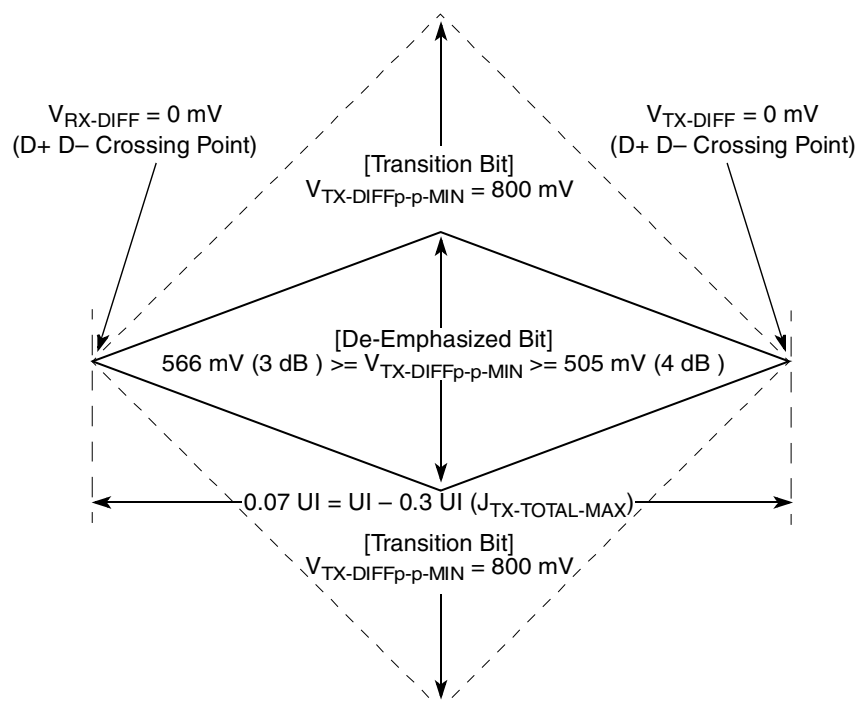
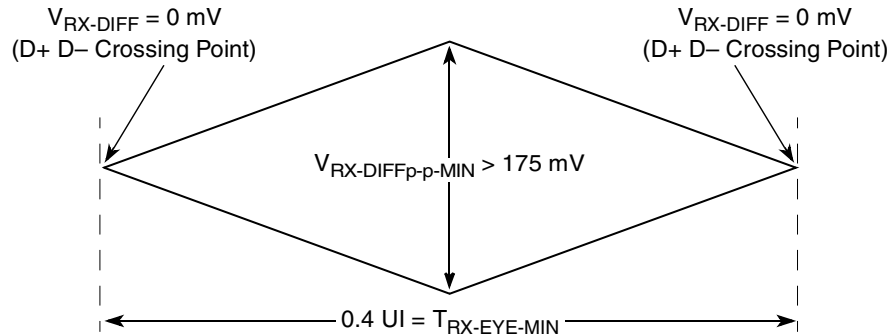
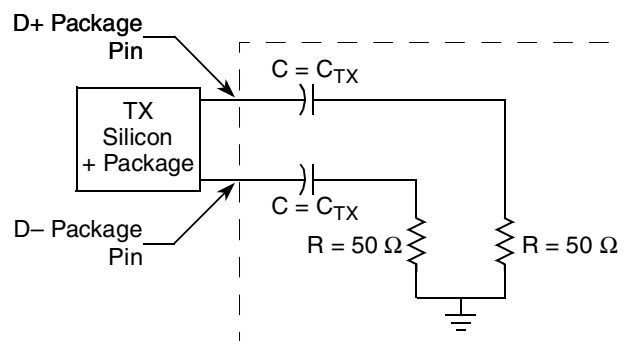

Figure 41. Minimum Transmitter Timing and Voltage Output Compliance Specifications
Figure 42. Minimum Receiver Eye Timing and Voltage Compliance Specification
Figure 43. Compliance Test/Measurement Load
- 2.) Specified at the measurement point into a timing and voltage compliance test load as shown in Figure 43 and measured over any 250 consecutive TX UIs. (Also refer to the transmitter compliance eye diagram shown in Figure 41.)
- 4.) The transmitter input impedance shall result in a differential return loss greater than or equal to 12 dB and a common mode return loss greater than or equal to 6 dB over a frequency range of 50 MHz to 1.25 GHz. This input impedance requirement applies to all valid input levels. The reference impedance for return loss measurements is 50 Ω to ground for both the D+ and D– line (that is, as measured by a vector network analyzer with 50- Ω probes—see Figure 43). Note that the series capacitors C_{TX} is optional for the return loss measurement.
- 5.) Measured between 20–80% at transmitter package pins into a test load as shown in Figure 43 for both $V_{\text{TX-D+}}$ and $V_{\text{TX-D-}}$.
The TX eye diagram in Figure 41 is specified using the passive compliance/test measurement load (see Figure 43) in place of any real PCI Express interconnect + RX component.
- 2.) Specified at the measurement point and measured over any 250 consecutive UIs. The test load in Figure 43 should be used as the RX device when taking measurements (also refer to the receiver compliance eye diagram shown in Figure 42). If the clocks to the RX and TX are not derived from the same reference clock, the TX UI recovered from 3500 consecutive UI must be used as a reference for the eye diagram.
- 4.) The receiver input impedance shall result in a differential return loss greater than or equal to 15 dB with the D+ line biased to 300 mV and the D– line biased to –300 mV and a common mode return loss greater than or equal to 6 dB (no bias required) over a frequency range of 50 MHz to 1.25 GHz. This input impedance requirement applies to all valid input levels. The reference impedance for return loss measurements for is 50 Ω to ground for both the D+ and D– line (that is, as measured by a Vector Network Analyzer with 50- Ω probes—see Figure 43). Note that the series capacitors CTX is optional for the return loss measurement.
The RX eye diagram in Figure 42 is specified using the passive compliance/test measurement load (see Figure 43) in place of any real PCI Express RX component.
Note: In general, the minimum receiver eye diagram measured with the compliance/test measurement load (see Figure 43) will be larger than the minimum receiver eye diagram measured over a range of systems at the input receiver of any real PCI Express component. The degraded eye diagram at the input receiver is due to traces internal to the package as well as silicon parasitic characteristics which cause the real PCI Express component to vary in impedance from the compliance/test measurement load. The input receiver eye diagram is implementation specific and is not specified. RX component designer should provide additional margin to adequately compensate for the degraded minimum receiver eye diagram (shown in Figure 42) expected at the input receiver based on some adequate combination of system simulations and the return loss measured looking into the RX package and silicon. The RX eye diagram must be aligned in time using the jitter median to locate the center of the eye diagram.
The reference impedance for return loss measurements is $50\ \Omega$ to ground for both the D+ and D– line (i.e., as measured by a vector network analyzer with $50\text{-}\Omega$ probes—see Figure 43). Note that the series capacitors, CTX, are optional for the return loss measurement.
The AC timing and voltage parameters must be verified at the measurement point, as specified within 0.2 inches of the package pins, into a test/measurement load shown in Figure 43.